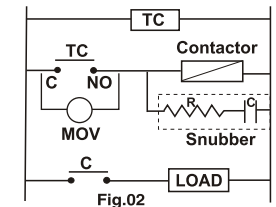

Fig.02
- For bigger loads, use interposing relay / contactor (refer fig.02)